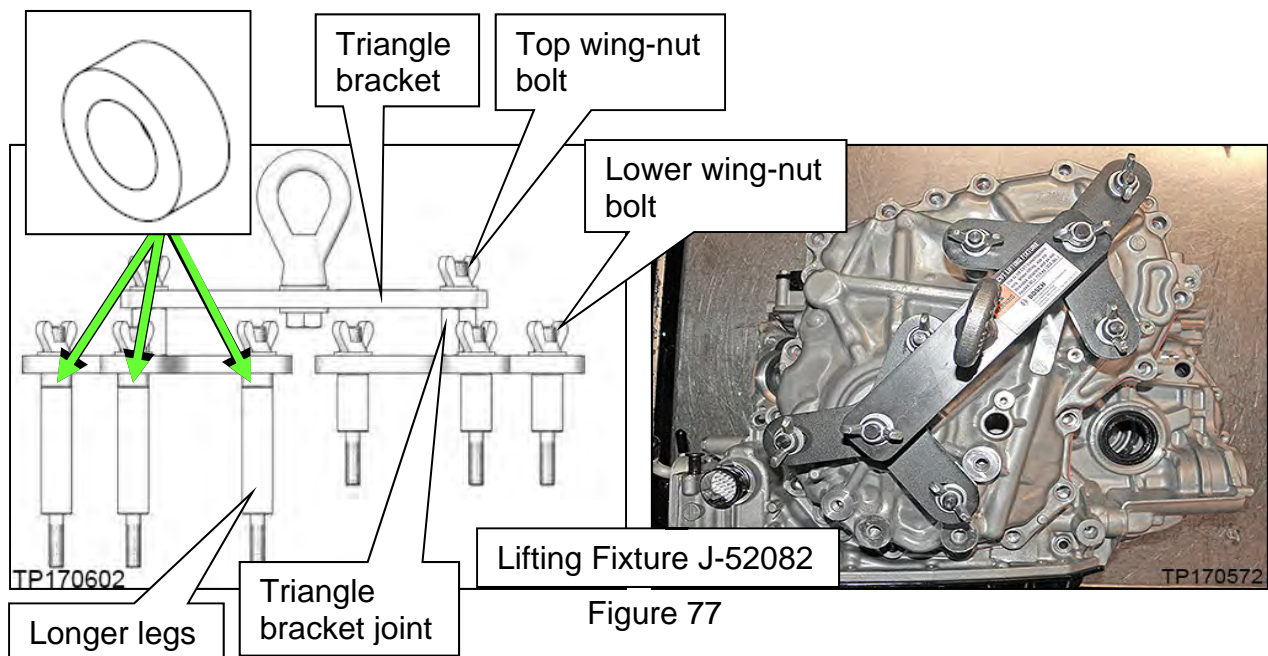

Figure 77
58. Attach universal Lifting Fixture J-52082 with spacers J-52082-2 to the side cover as shown in Figure 77.
- b. Confirm that three (3) spacers (# J-52082-2) are present between the longer legs and triangle bracket as shown in Figure 77.